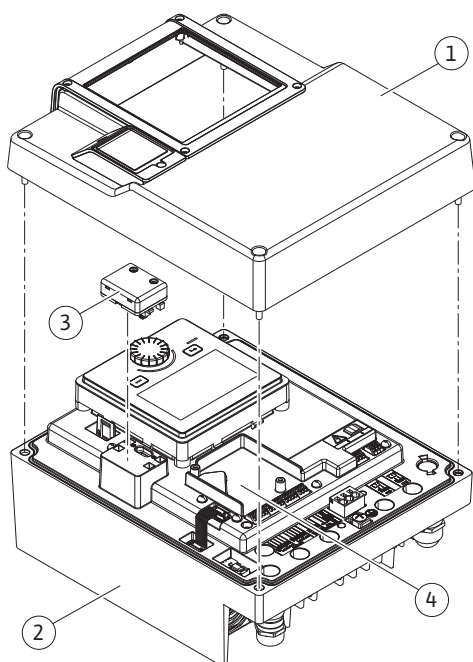
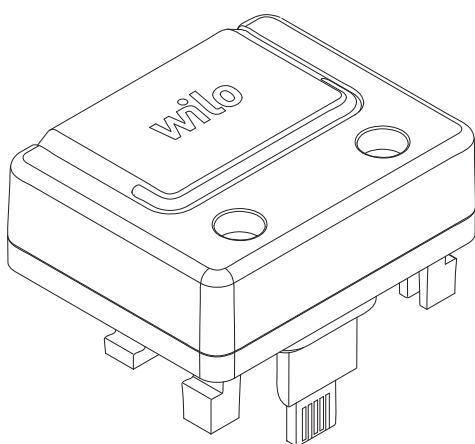

Fig. 25: Electronic module
Fig. 26: Wilo-Smart Connect module BT
The Bluetooth interface (Fig. 25, Item 3) Wilo-Smart Connect module BT (Fig. 26) is used to connect to mobile end devices such as smartphones and tablets. Using the Wilo-Smart Connect app, you can operate and adjust the pump and read out pump data. For settings, see chapter "Commissioning".
3. Insert the Wilo-Smart Connect module BT into the designated interface. See Fig. 25, Item 3.
CIF modules (accessories) are used for communication between pumps and building management systems. CIF modules are plugged into the electronic module (Fig. 25, Item 4)